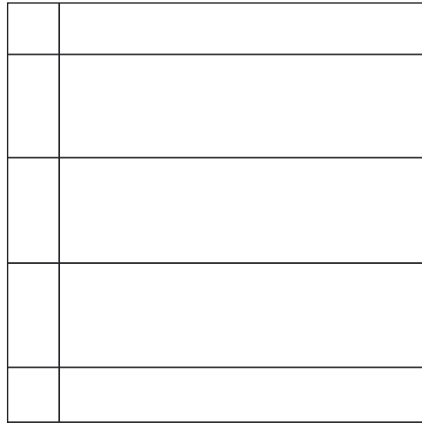

Figure 4: Mark Tube Locations
2. Mark the wall for tube placement. Refer to **Figure 4**. A horizontal line represents the bottom of a tube, and a vertical line represents the end of a tube or the side of a display.